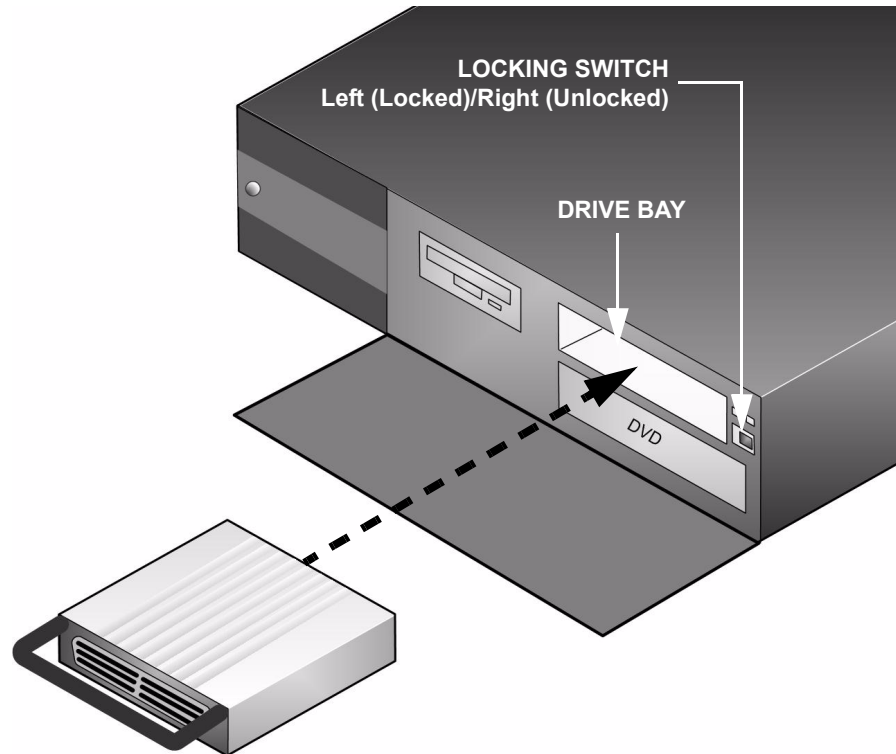

Figure 11: Inserting the Hard Disk Drive (DVN 5000 Desktop)
3. Unlock the drive by moving the locking switch to the right. See Figure 11 for the location of the locking switch.
7. Insert the new hard disk drive into the drive bay slot. See Figure 11.